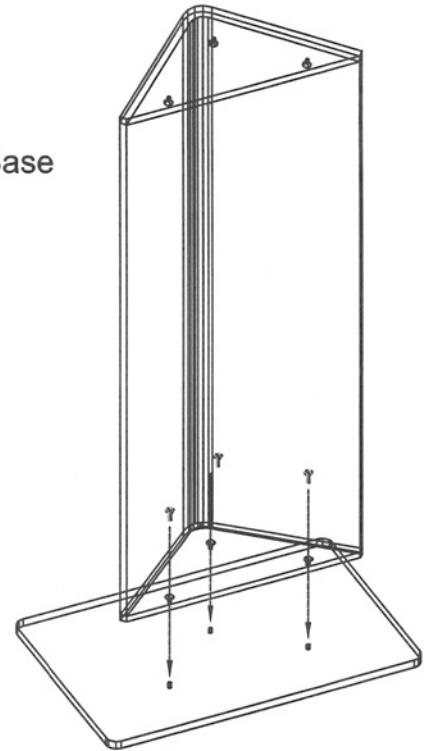

Figure 2
3. Using the provided Screwdriver, attach the Body to the Base with (3) Flat Head Screws as illustrated in Figure 2.